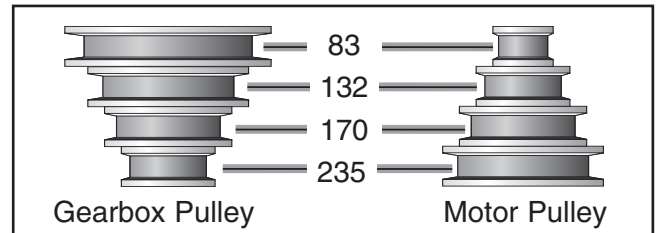

Figure 33. V-belt positions in FPM.
4. Move the V-belt to the desired pulley combination (see **Figure 33**, above).